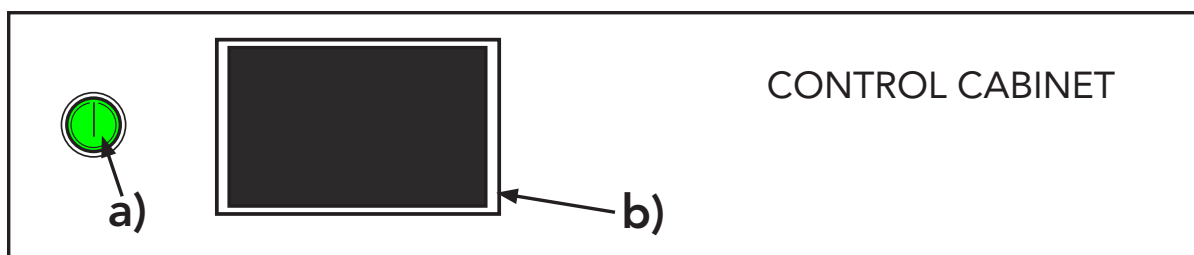

Fig. 18
2. Press the green on/off push button. The button illuminates (Fig. 18, page 9).